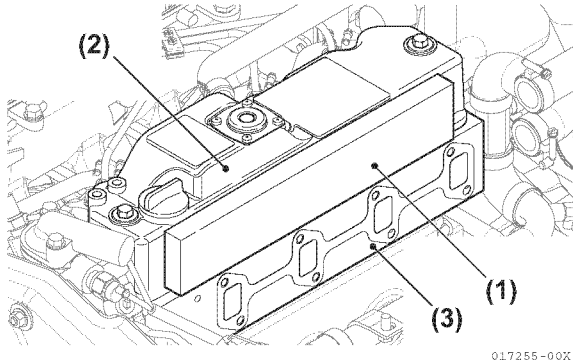
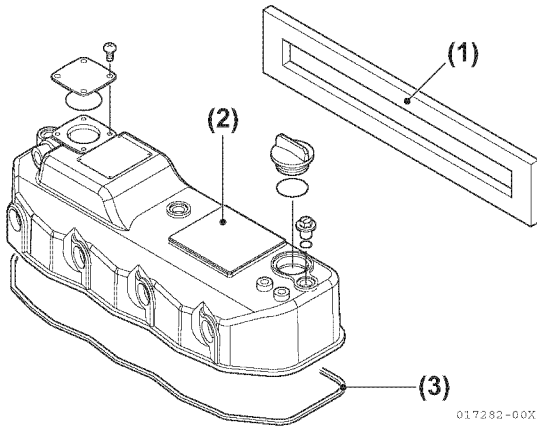

Figure 5-174
Figure 5-175
50. Attach the noise absorber to the rocker arm cover before assembling the heat exchanger for 4JH4AE (**Figure 5-174, (1)**), 4JH4-TE and 4JH4-HTE (**Figure 5-175, (1)**).